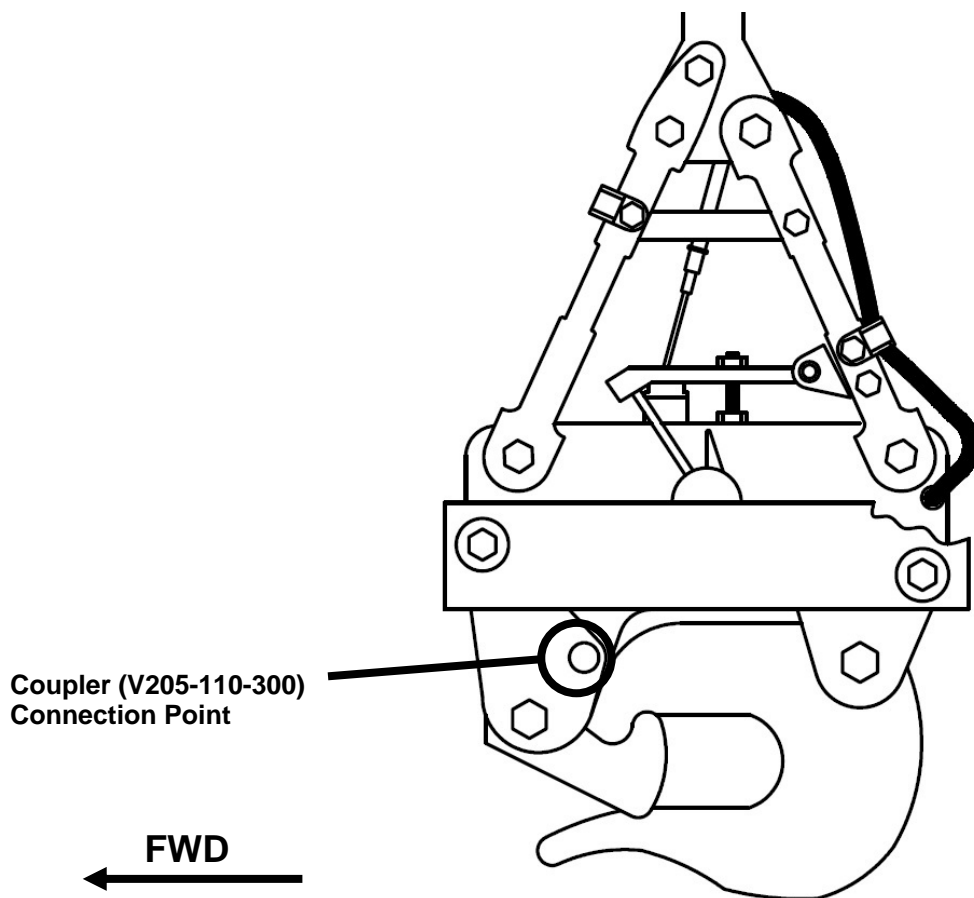

Figure 4: Keeper Hook Coupler Connection Point
1. Remove the existing hardware at the connection point shown in Figure 4.